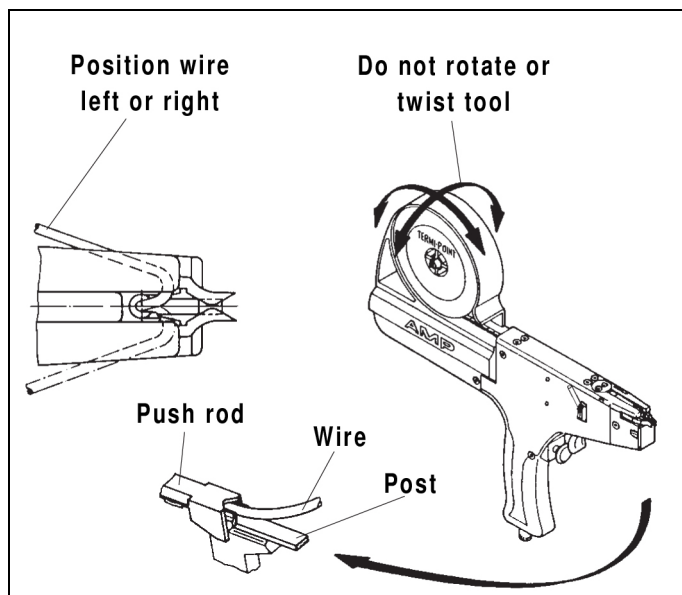

Fig. 11: Alignment of Mandrel Tool
5. Position post pickups of tool over selected post on pc board or panel and visually align mandrel of tool with post (ref. Fig. 11), insert post into post pickups until it is positioned against mandrel (Fig. 11).